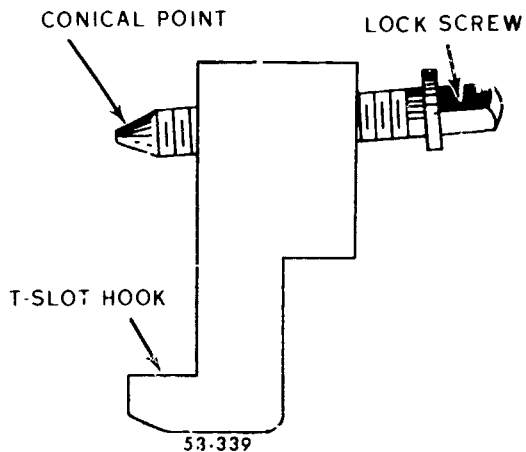
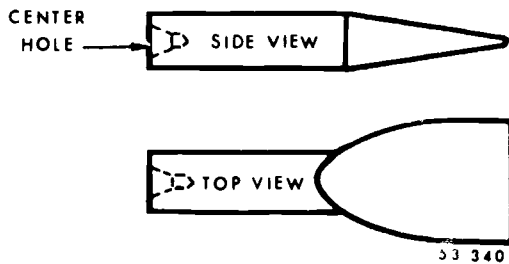
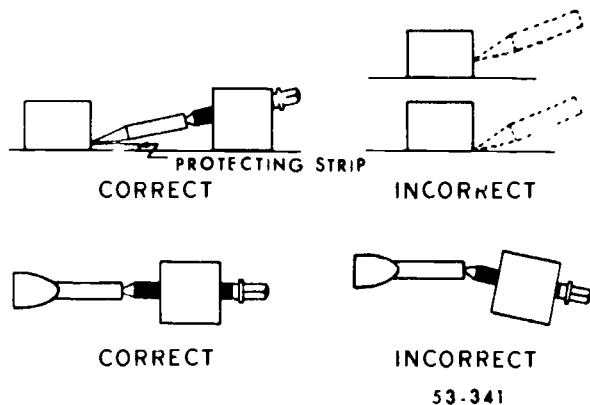

Figure 2-12 Bunter
Figure 2-13 Toe dog
Figure 2-14 Use of toe dogs
**Bunters and toe dogs.** You use bunters, shown in figure 2-12, to prevent work from shifting sideways during machining. Insert the hooked portion of the bunter in the T-slot of the table and use the threaded screw to lock the work and bunter in position. You can use toe dogs, shown in figure 2-13, with bunters to hold thin work on the table. Figure 2-14 shows correct and incorrect ways to use toe dogs.